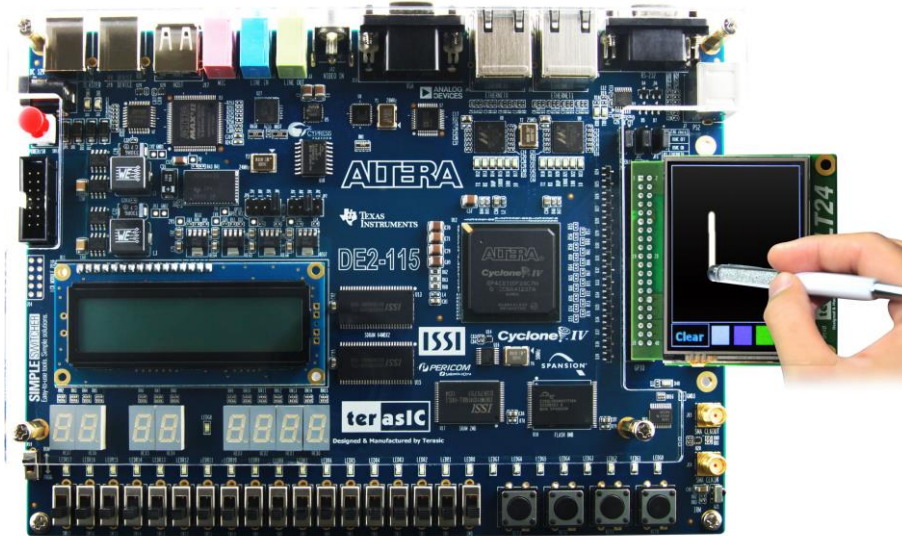

Figure 4-2 Painting demo running on LT24 with DE2-115
**Figure 4-2** displays the painting on the canvas area.